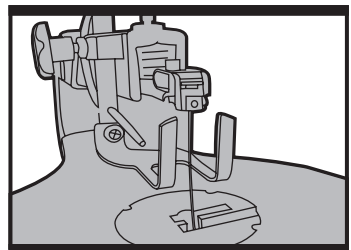

Fig.F4
b) Attaching the blade adaptors to plain end blades for side cutting **(Fig.F4)**